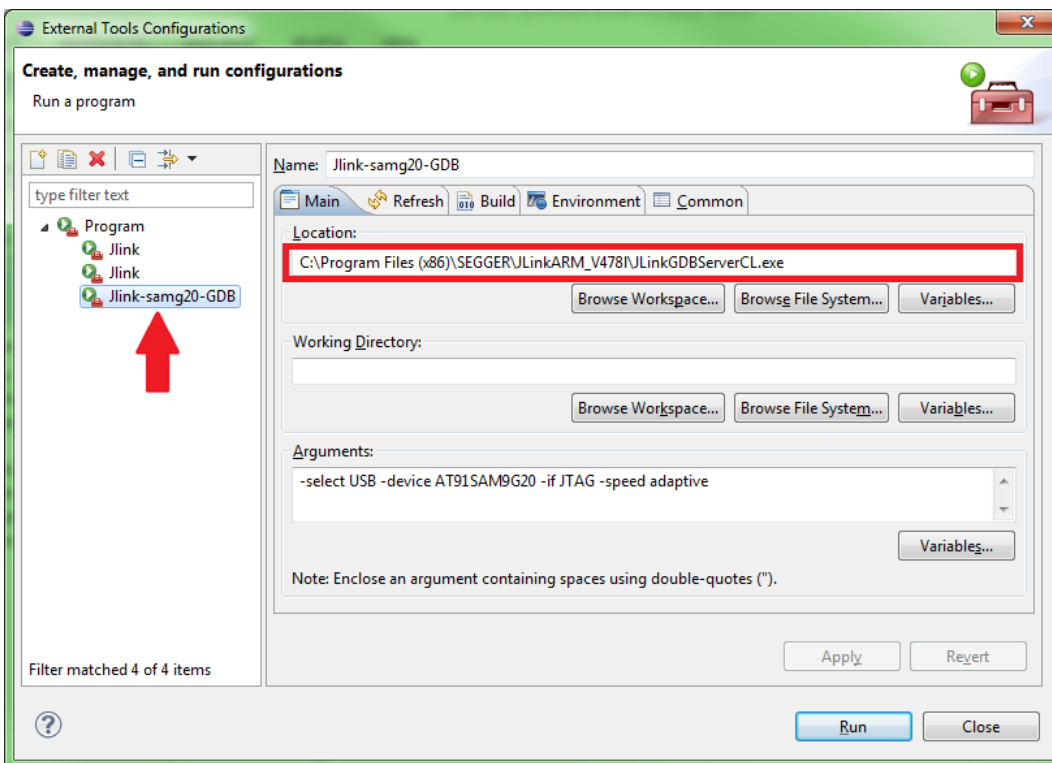

Figure 12: Update/Verify that the correct path to the GBD server executable is in place for the 'JLink-samg20-GDB' launch configuration.
5. Make sure the 'Location' string contains the correct path using the JLink version installed on the system. Copy/paste the path to an explorer for quick verification. See Figure 12.